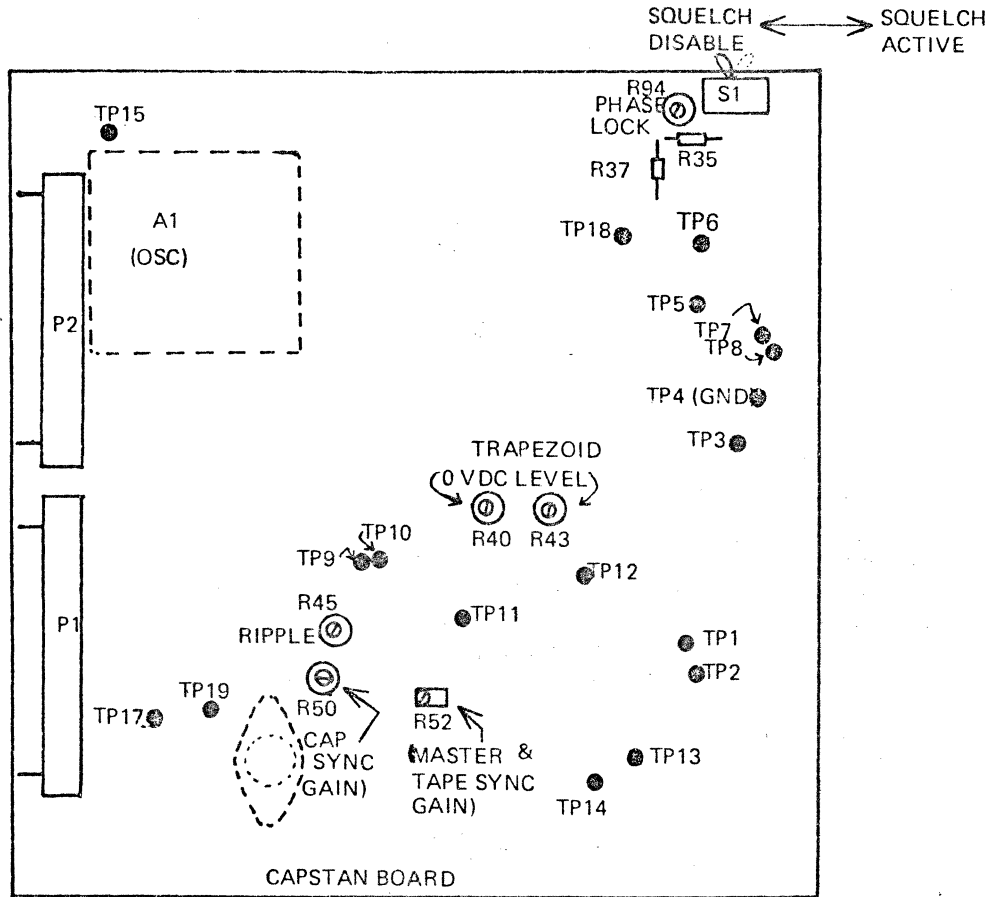

Figure 6. Capstan Board, Location of Testpoints and Adjustments
Step 1. With POWER removed place the capstan board on its extender (if the cabinet back is removed or cabinet removed, the board need not be extended). Connect a frequency counter between testpoints TP5 (hi) and TP4 (lo). Refer to figure 6 for capstan board locations.
- Step 2.* Monitor testpoint TP9, refer to figure 6, with an oscilloscope (TP4 lo) and ensure the lower portion of the trapezoidal waveform is at 0 Vdc level. Adjust R40, as necessary, to bring this level to 0 Vdc.
- (a) With all POWER removed, locate PHASE LOCK adj., R94, on the capstan board (refer to figure 6) and turn completely CW.